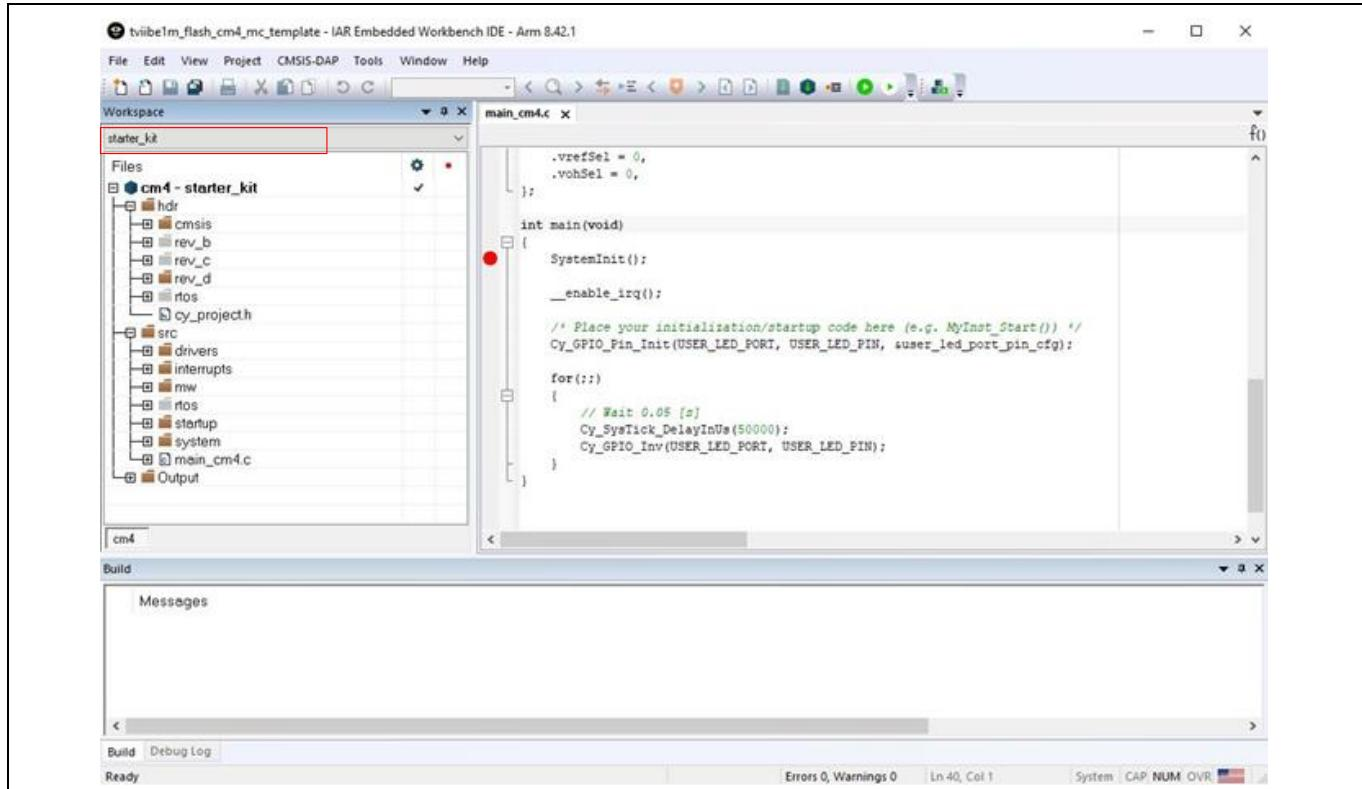

Figure 14 Selecting workspace revision
2. Select the workspace revision **starter_kit** from drop-down list under **Workspace**, as shown in Figure 14.